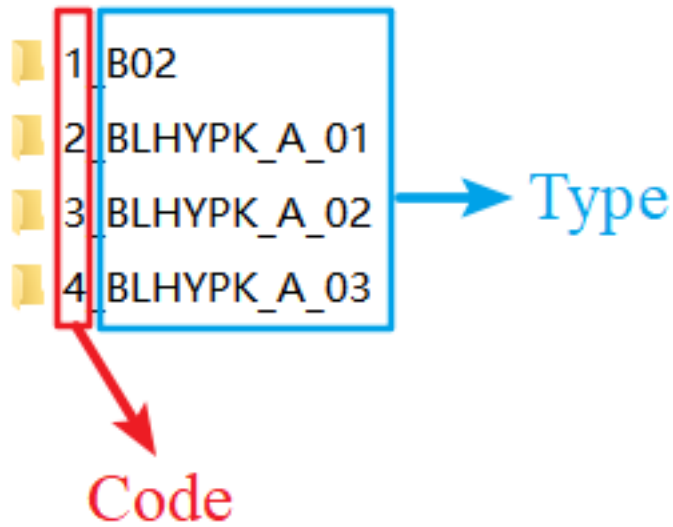

Figure 7 Template folder
- Template folder: The folder where templates are stored according to the type. The folder hierarchy is shown in *Figure 7*.